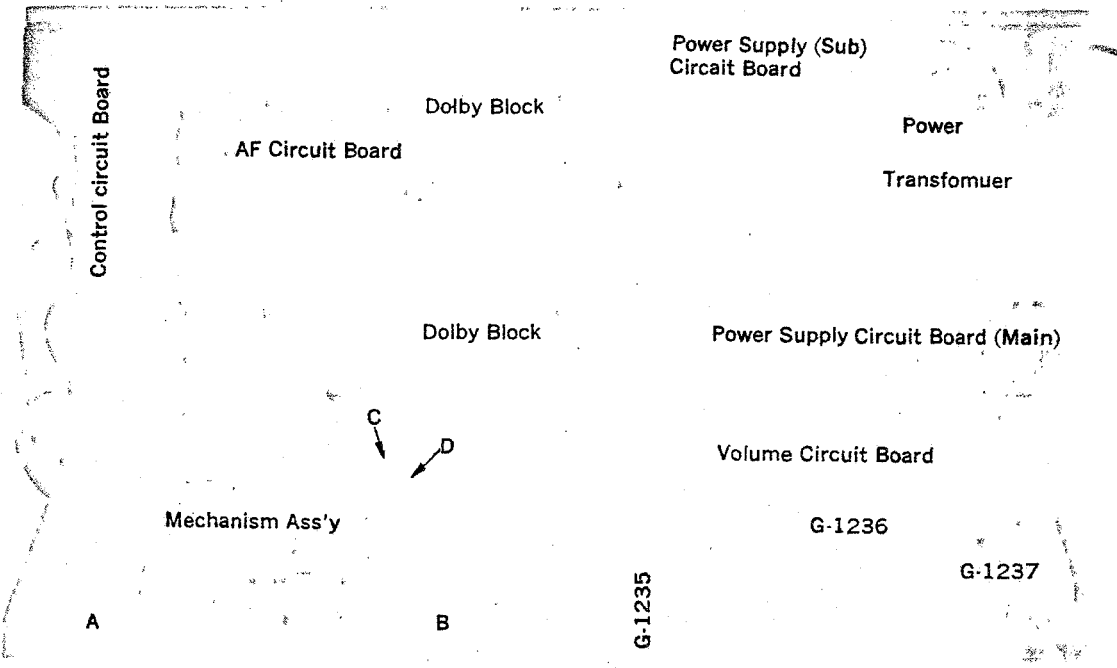

Fig. 4-1
(A & B in Fig. 4-1).
(C in Fig. 4-1).
(D in Fig. 4-1).
3. Loosen screw D in Fig. 4-1 and take out Play Arm.